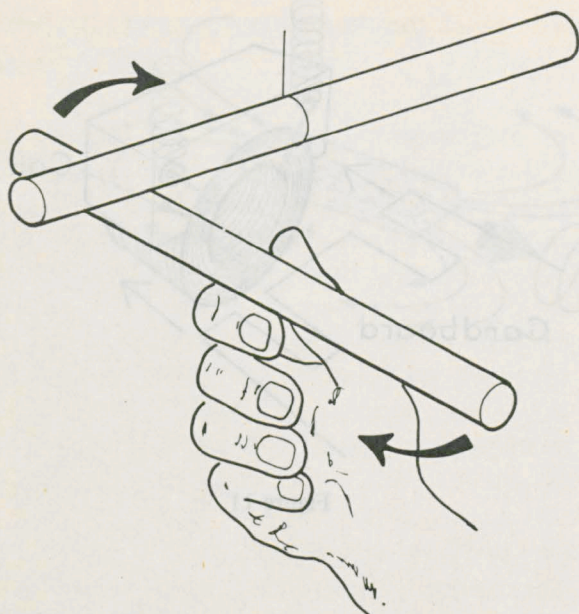

Figure 8.
7. Keeping one magnet suspended, as in the preceding experiment, hold a second magnet several inches below the suspended one, as shown in Figure 8. How does the suspended magnet behave as the second magnet is turned around so that it points in different directions in the horizontal plane?